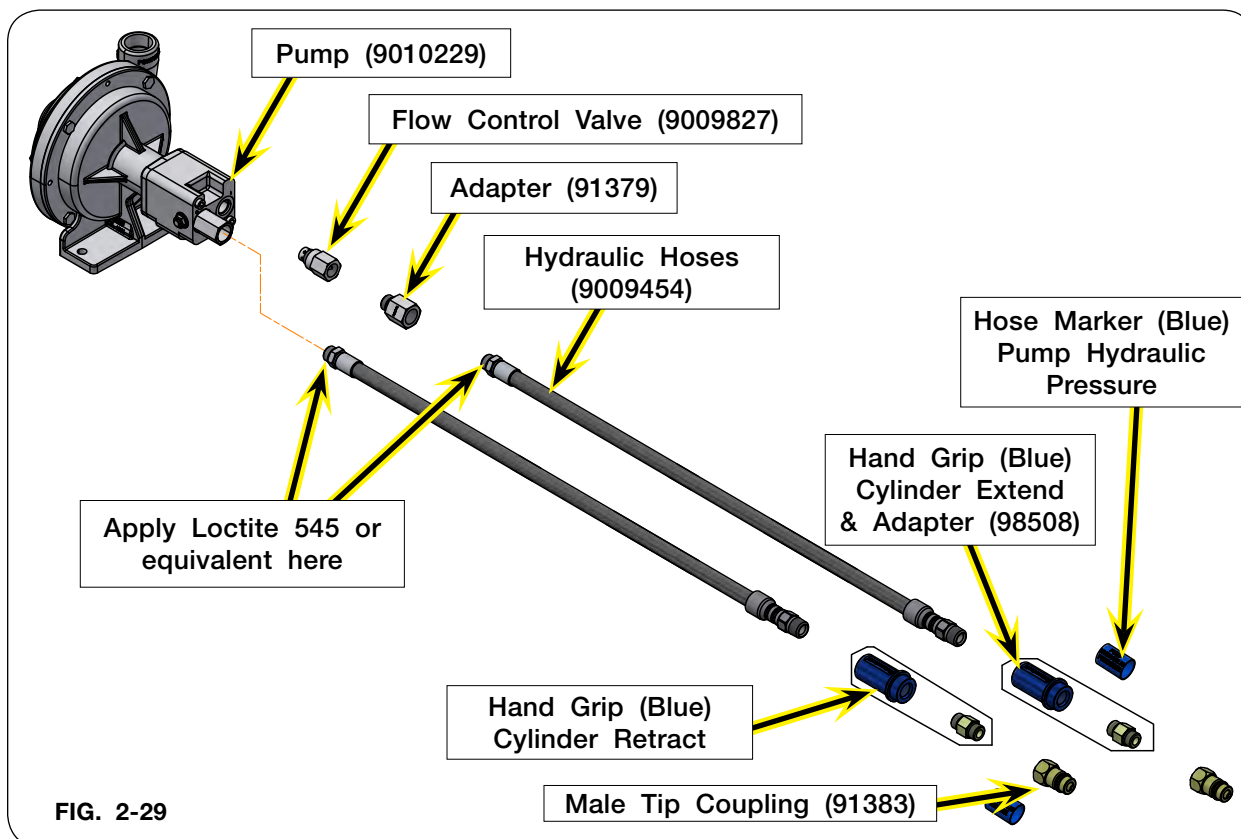

FIG. 2-29
16. If applicable, attach the Flow Control Valve (9009827) to the inlet port of pump (9010229). (FIG. 2-29)
17. Attach the hydraulic hoses to the pump (TA825350). (FIG. 2-29)
18. Attach hand grips with adapters (98508) or hose markers and male tip couplings (91383). (FIG. 2-29)